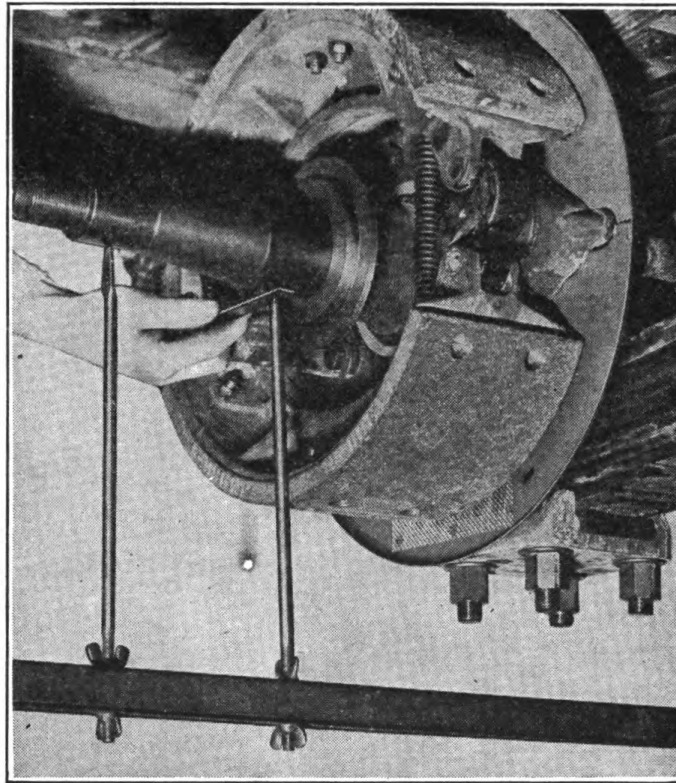

FIGURE 20. CHECKING AXLE FOR CAMBER.
9. CHECKING AXLE FOR CAMBER (Fig. 20).—*a.* Set the points of the axle gauge in exactly the same position on the axle and in the same manner as outlined in (paragraph 8, sub-paragraph *b*, this section).